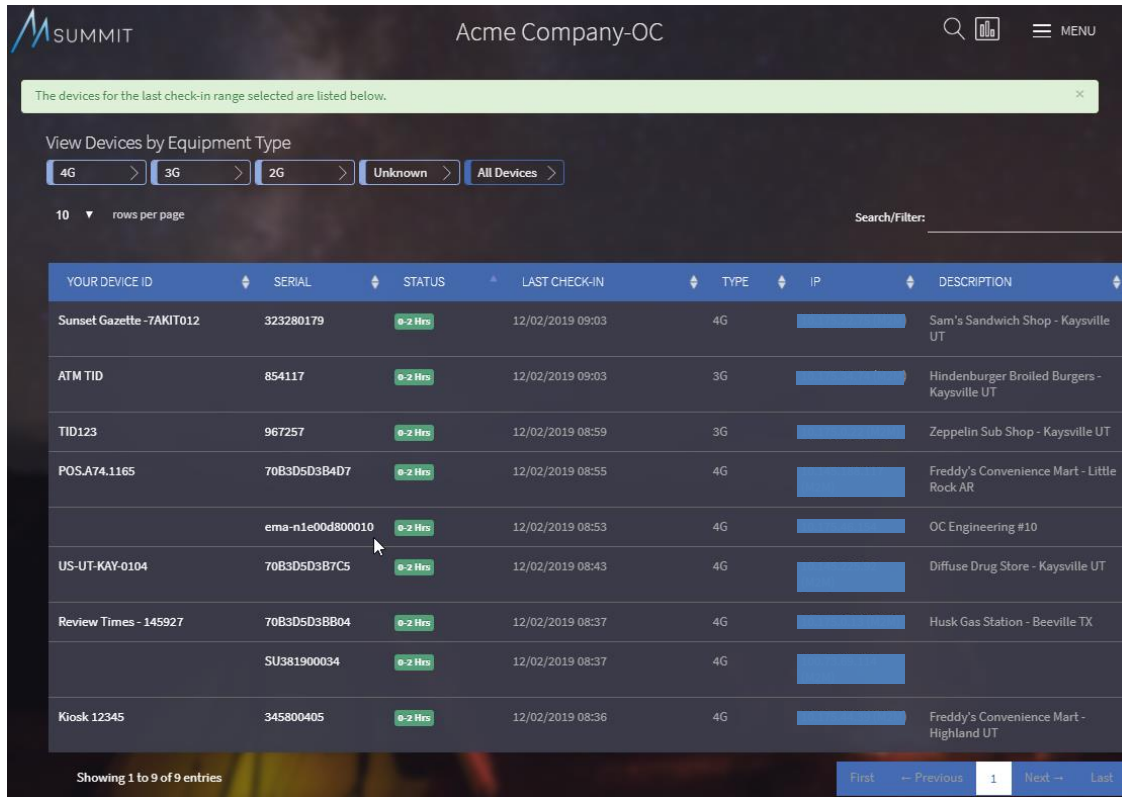

Figure 24
3. Click the "CURRENTLY ONLINE" button. The view will switch and list all OptConnect cellular devices associated with this account that are currently online. Locate the ema in question by serial number. Click on the serial number to monitor ema as shown in *Figure 24*.